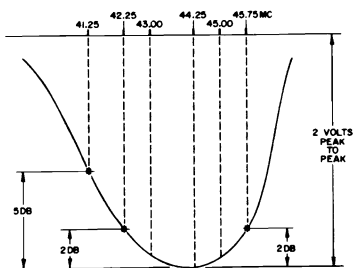

Figure 14 - Typical IF response, 3rd IF Amp grid to 2nd Det.
| 2. | Oscilloscope and VTVM to TP (B) IF sweep generator with CW Marker at 44.25 MC to TP (E) | Short antenna terminals. T203 primary (bottom slug): Maximum amplitude T203 secondary (top slug): Rocking symmetrical response (see Figure 14) |